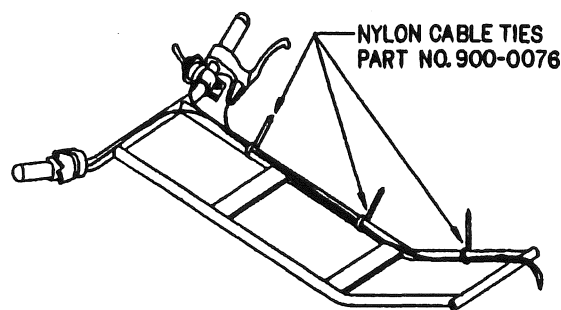

fig. 3
1. With the handles in the rear position, install all the cable ties (fig. 3).